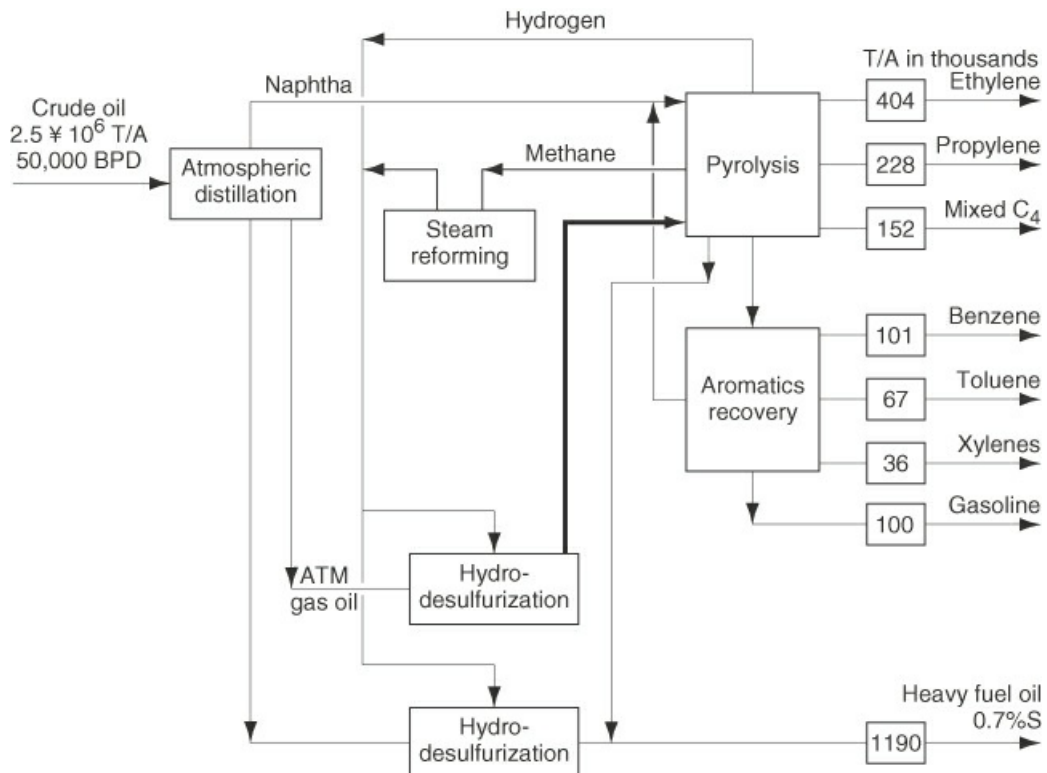

Figure P3.2.15
- **3.2.15** Examine the flowsheet in Figure P3.2.15 [adapted from *Hydrocarbon Processing*, 159 (November 1974)] for the atmospheric distillation and pyrolysis of all atmospheric distillates for fuels and petrochemicals. Does the mass in equal the mass out? Give one or two reasons why the mass does or does not balance. Note: T/A is metric tons per